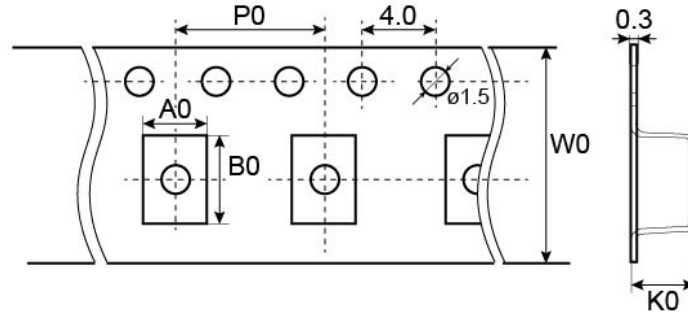

Figure 7 - Tape drawing
(1) Other film frame carrier are possible on request
(2) Au = TiWAu (0.3µm) / Au (3µm)
(3) Refer to Figure 7
(4) missing capacitors can reach 0.5%